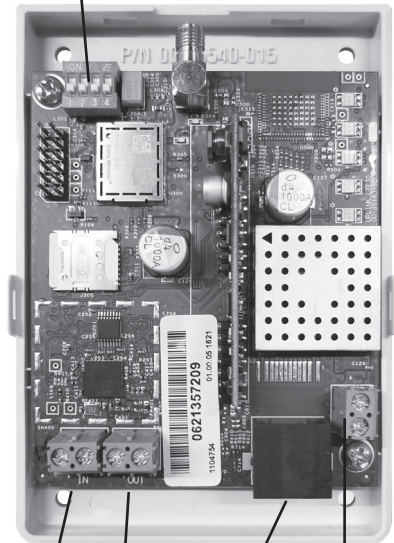

FIGURE 1: Model LTE30VZ PC Board Details
3. Go to the red, 4-position Dipswitch as shown in Figure 1 and set the dipswitch as appropriate for this installation. (See DIP Switch Settings, page 12.)
5. Position the bottom of the LTE30VZ enclosure where it will be installed. Use four (4) #6 screws and mount the unit using the four holes in the enclosure's plastic bottom.